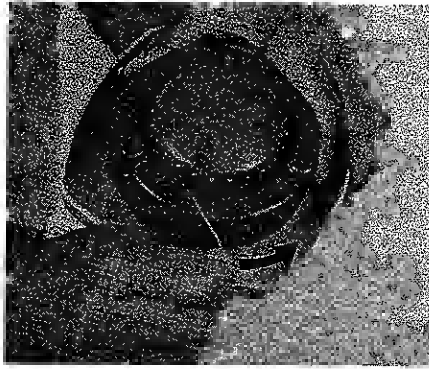

FIGURE 6
- B. Pull the cutting line up and to the left (counterclockwise) to the next exit in the head. Figure 6